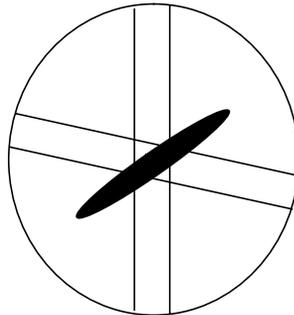

Figure 3: Skew-coupled beam spot
1. Check all viewscreens (ITV0F02, 4 and 6, ITV0G01, and, if at all possible, change injection dipole string to look at ITV0F01). A nastily coupled beam looks like Figure 3, where the beam spot is a diagonal stripe.